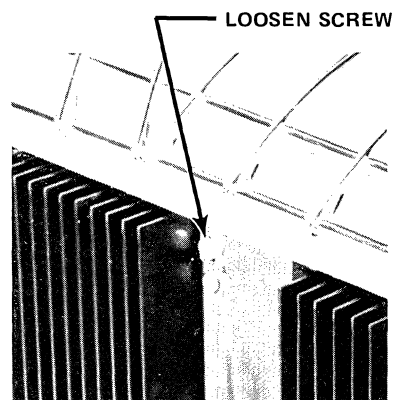

Figure 4-1. TOP COVER SHIPPING SCREW
- 4) If not already done, loosen the shipping restraint screw from the rear of the top cover (Fig. 4-1). (The screw can be left loose when the cover is reinstalled, but it should be left in place for possible future use when shipping the machine.)